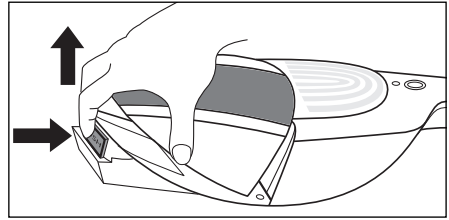

Fig. 3
- 2) Press the PUSH 6 button and, at the same time, pull the dirt container 9 upwards. You can now lift this off upwards/forwards (Fig. 3).